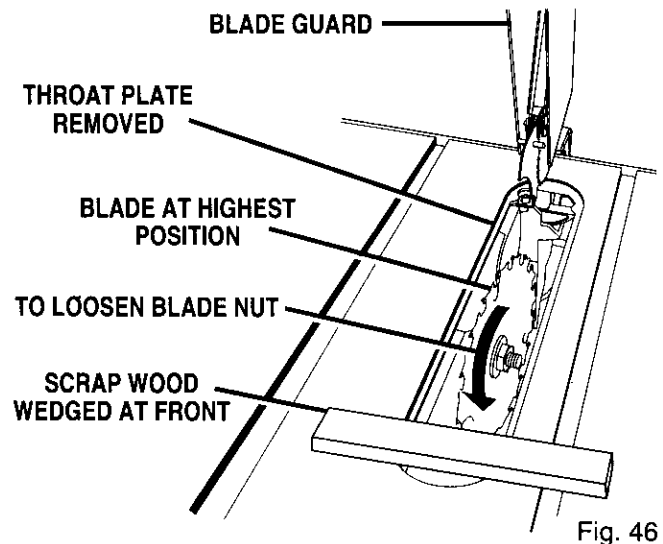

Fig. 46
See Figures 46, 47, and 48.
- Raise the blade to its highest position by turning the height handwheel clockwise. Angle the blade straight up by loosening the bevel lock handle (front of the cabinet) and turning the bevel handwheel. Wedge a piece of scrap wood against the front of the blade. See Figure 46.